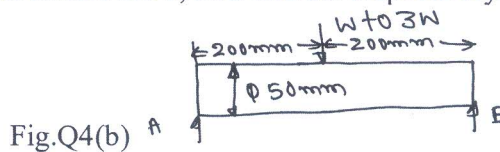

Fig.Q4(b)
b. Determine the maximum load for the simply supported beam, cyclically loaded as shown in Fig.Q4(b). The ultimate strength is 700 MPa. The yield point in tension is 520 MPa and the endurance limit in reversed bending is 320 MPa. Use a factor of safety of 1.25. The load, size and surface correction factors are 1, 0.75 and 0.9 respectively. (15 Marks)